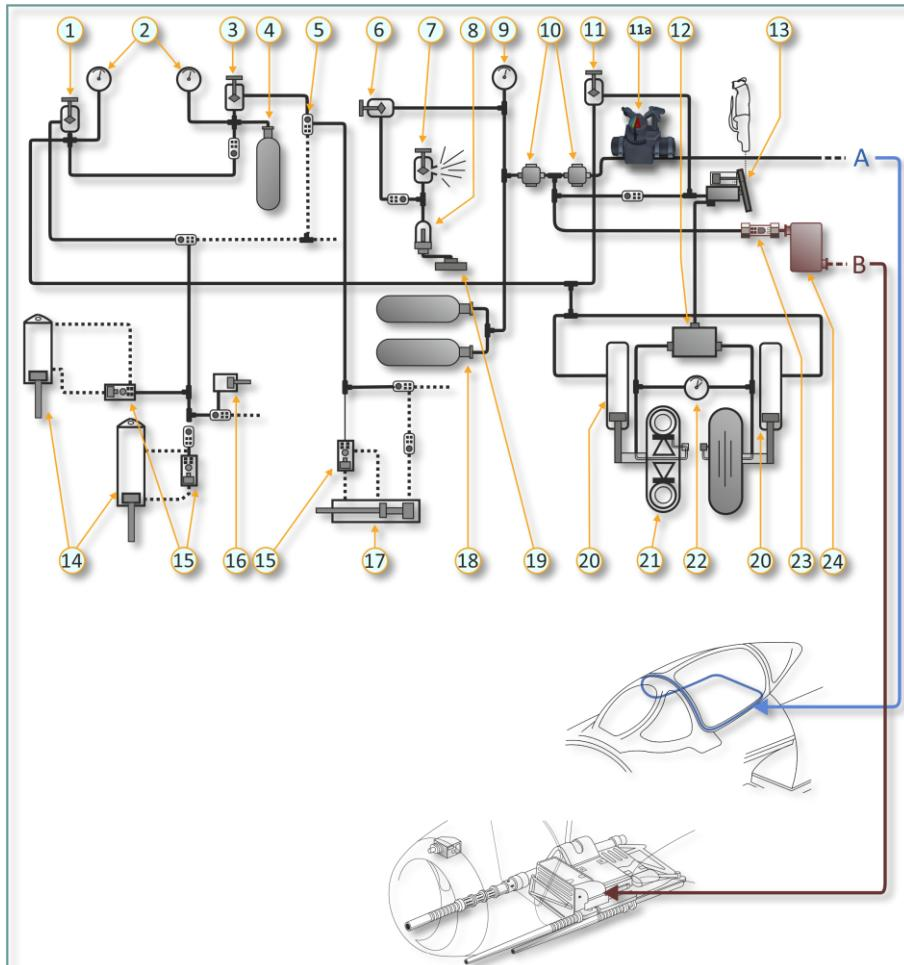

Figure 5.9. MiG-15bis pneumatic system
1. Charging valve (Figure 5.9, 6)
2. Cockpit pressurization valve (Figure 5.9, 7)
cockpit air supply valve (Figure 5.9, 11a), which opens the slide valve for filling the cockpit pressurization line with air
pneumatic system pressure gauge (Figure 5.9, 9) on horizontal panel on the right side of the cockpit
gear brake lever (Figure 5.9, 13)dual-pointer braking system
pressure gauge (Figure 5.9, 22)
emergency air tank charging valve (Figure 5.9, 11)
emergency pressure gauge and gear extension valve (Figure 5.9, 2, 1)
emergency pressure gauge and flaps extension valve (Figure 5.9, 2, 3).